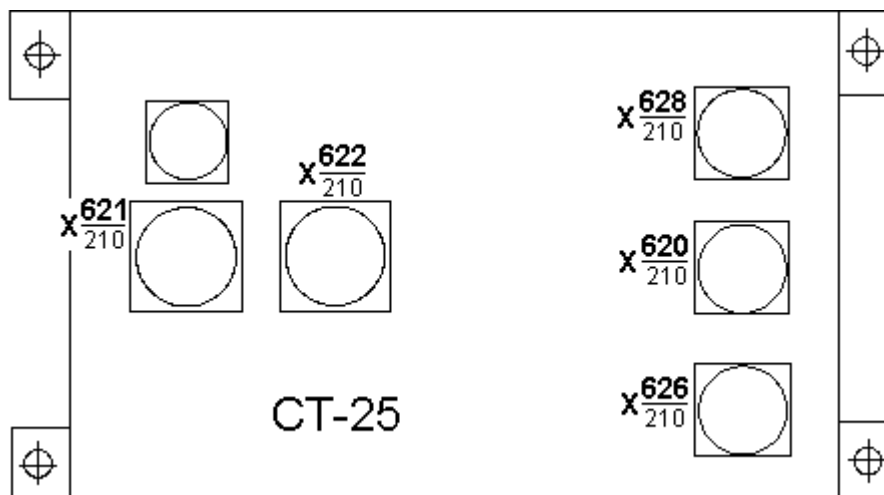

Figure 2.6.-1. CT-25 Unit Connector Location Diagram
6. Mate onboard cable connectors to CT-25 unit connectors (in the specified sequence) (see Figure 2.6.-1):